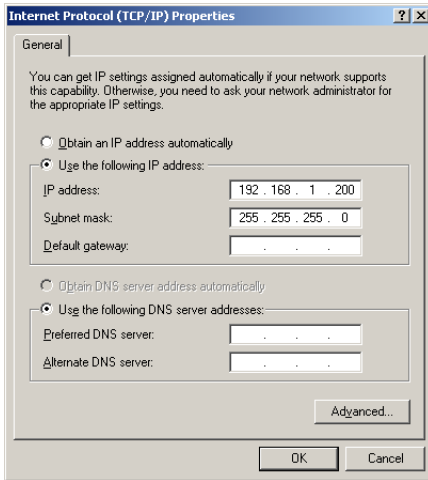

Figure 5-2 Internet Protocol Properties Window
4. Highlight the “Internet Protocol (TCP/IP)” item in the list, and click on the “Properties” button. The Internet Protocol Properties Window will open (Figure 5-2).